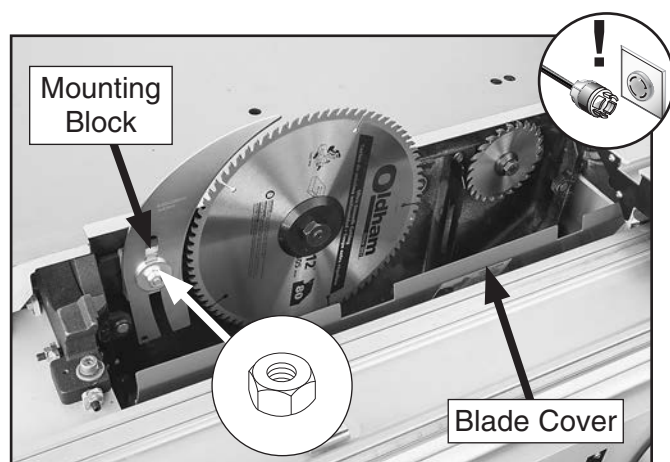

Figure 164. Blade cover open.
4. Open blade cover (see **Figure 164**) to gain access to riving knife mounting block.
5. Loosen hex nut that secures riving knife to mounting block (see **Figure 164**), and remove riving knife (or splitter/riving knife).